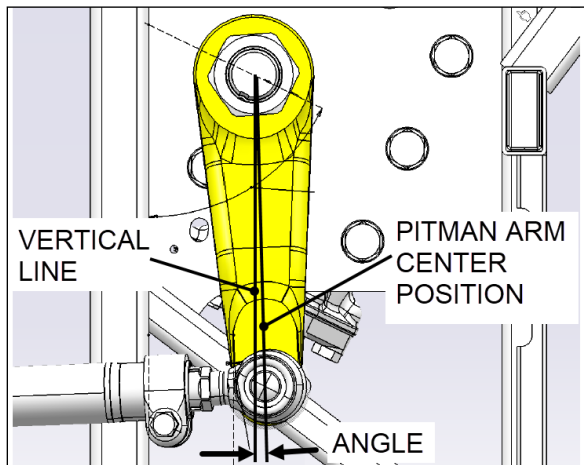

FIGURE 16: PITMAN ARM ADJUSTMENT
2. Using a protractor, check the angle of the pitman arm (Figure 16).